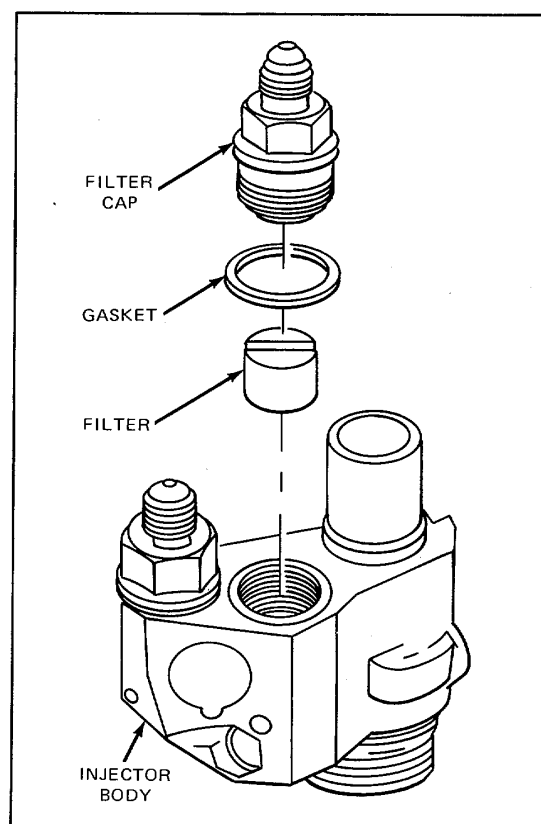

Figure 36. Details of Injector Filters and Caps and Their Relative Location
1. Insert a new filter, dimple end down, slotted end up, in each of the fuel cavities in the top of the injector body (Fig. 36).